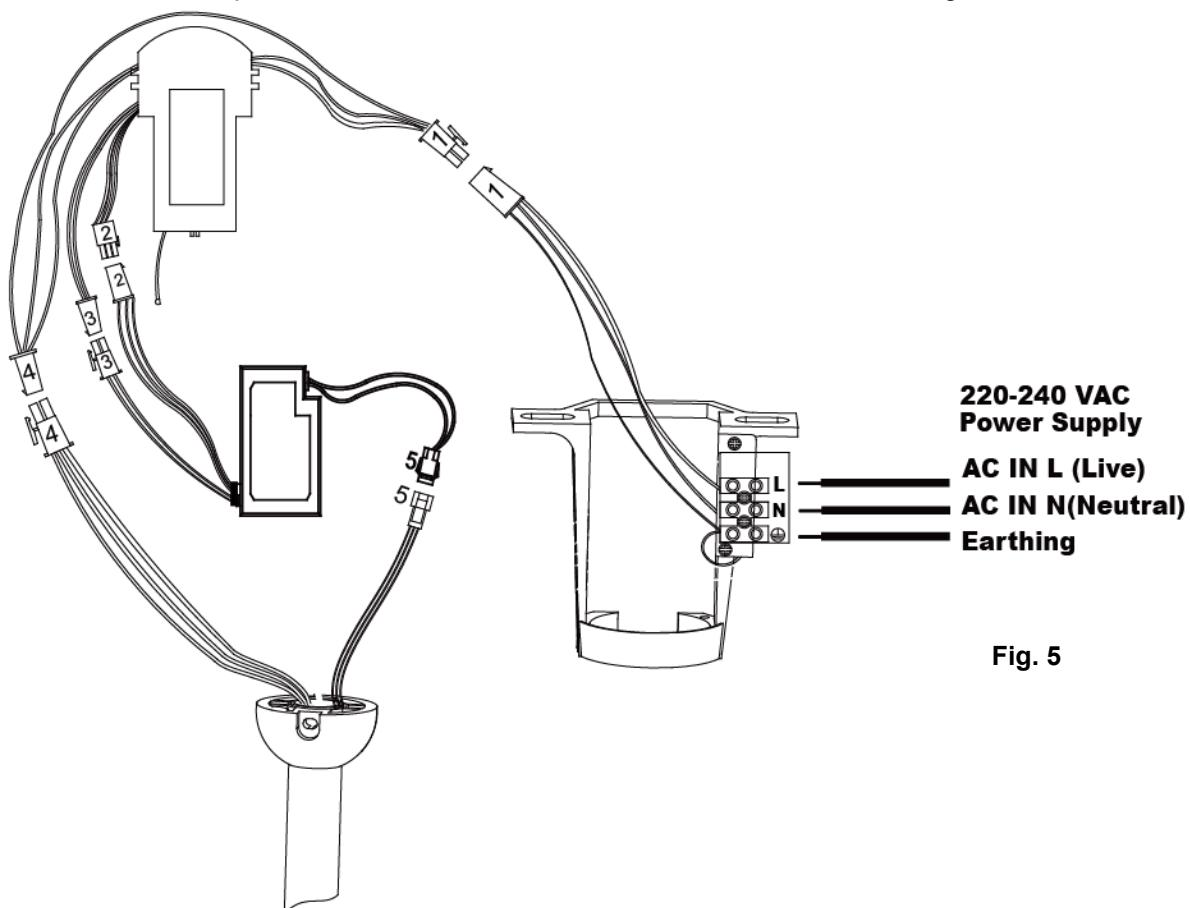

Fig. 5
- Refer to the wiring diagram provided for Electrical Connection/installation. **Fig. 5**
- After completing the electrical wiring at the mounting bracket terminal and connecting the remote receiver power input wires and fixed wiring via the 4-port quick connectors (1); connect the LED driver power input wires and remote receiver power output wires via the 2-port quick connectors (3); connect the LED driver PWM signal input wires and remote receiver PWM signal output wires via the 3-port quick connectors (2); connect the remote receiver fan output and motor input wires via the 4-port quick connectors (4); also connect the LED driver output wires and LED light wires via the quick connectors (5). **Fig. 5**